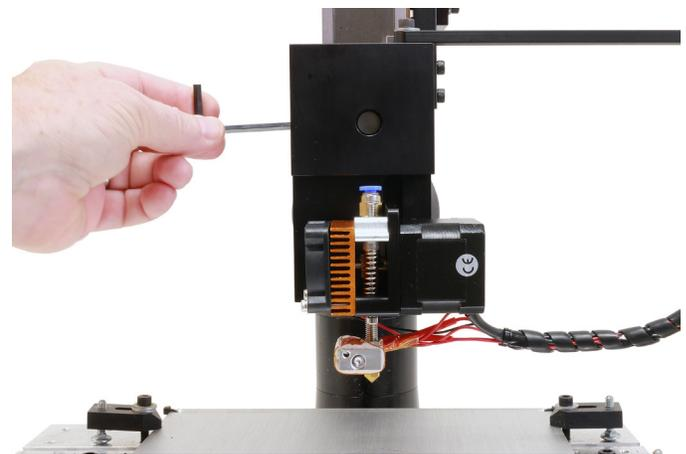

FIGURE 2
- c. Mount the 3D print head onto the column saddle. Lock it in place with the set screw (make sure the head key is in place). (see Figure 2)
UBUNTU FIGURE 2